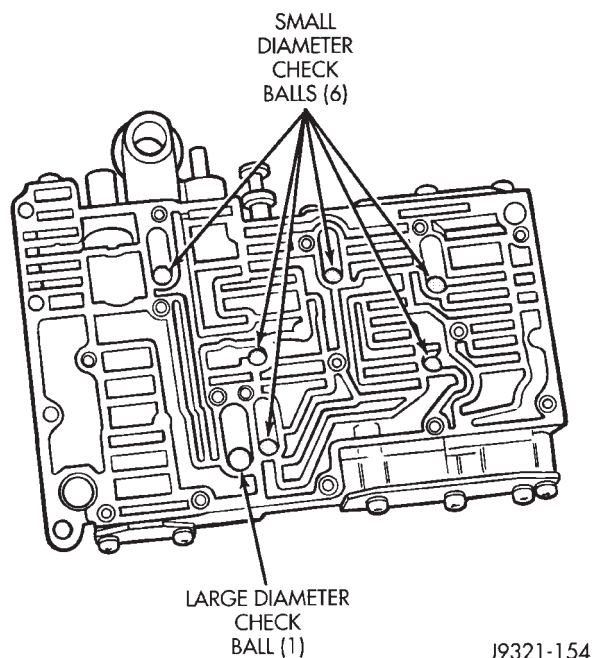

Fig. 119 Check Ball Locations In Upper Housing
(1) Note location of check balls in valve body upper housing (Fig. 119). Then remove the one large diameter and the six smaller diameter check balls with pencil magnet.